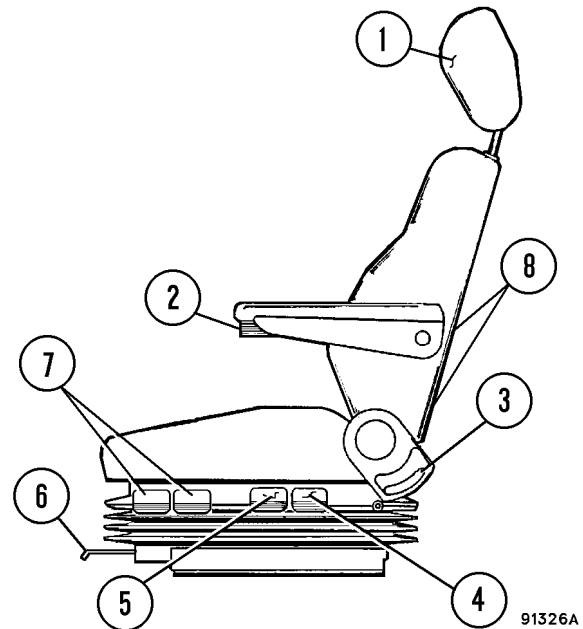

FIGURE 3-6. OPTIONAL SEAT -
1. **Headrest:** headrest (1, Figure 3-6) will move up, down, fore, or aft by moving headrest to desired position.
2. **Armrests:** rotate adjusting knob (2) until armrest is in desired position.
3. **Backrest:** Rotate control (3) upward and hold, select backrest angle; release control handle.
- a. Rear height and slope; lift control lever (4) and hold.
- a. Front height and slope; lift control lever (5) and hold.
- a. Raise adjustment lever (6).